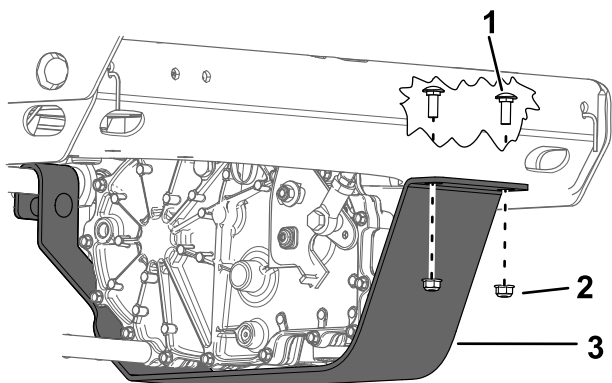

Figure 63
4. Remove the 2 bolts and nuts from the transaxle guards (Figure 63).
8. Pivot the transaxle guards up and secure both with 2 bolts and 2 nuts (Figure 63).